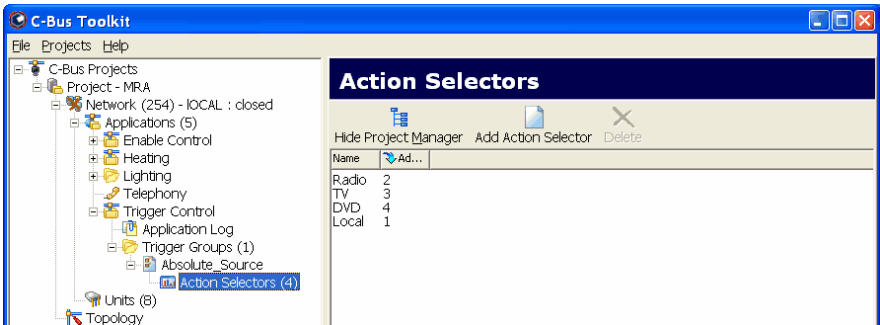

Figure 21 – Selectors used in DLT scenes for absolute source selection
- 4) A button on a wall switch can be used to select a specific audio source (absolute source). This is normally achieved by configuring the button as a scene. If you program a C-Bus DLT wall switch to select an absolute source, you must create a Group Address in the Trigger Control Application and an Action Selector (selector) for each scene. These allow you to send labels to the DLT scenes. Such a Trigger Control Group Address with selectors is shown in Figure 21.